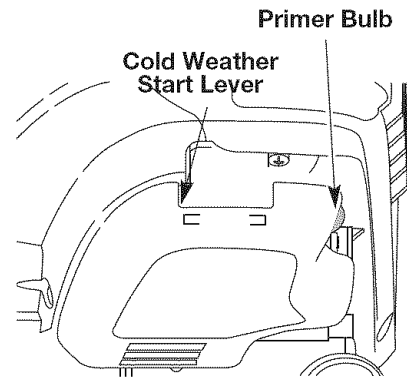

Fig. 7
IF COLD... For cold weather conditions (below 40°F), flip the Cold Weather Start Lever (Fig. 7) down to the start/closed position and continue to step 4. **DO NOT** flip this lever down if the temperature is above 40°F.
3. Fully press and release the primer bulb 10 times, slowly. Some amount of **fuel should be visible in the primer bulb** and fuel lines (Fig. 7). If you can't see fuel in the bulb, press and release the bulb as many times as it takes before you can see fuel in it.